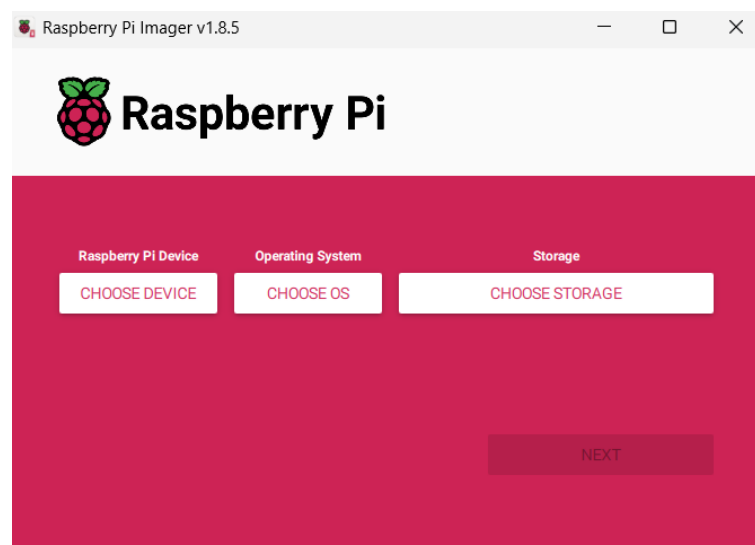

Figure 2. The Raspberry Pi imager tab.
- 3) When the installation is over, open the downloaded file using the “Run as administrator” option. The Raspberry Pi imager tab, shown in figure 2, should appear.